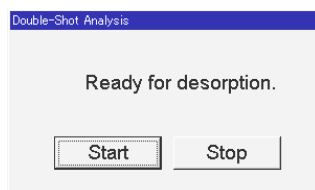

Fig. 4.10 Dialog Box Showing Start of Desorption Program in Double-Shot Analysis
1. Check the Furnace check box (B) to turn on Pyrolyzer heater.
6. A dialog box shown in Fig. 4.10 will be displayed, if GC, Pyrolyzer furnace, interface, Selective Sampler, and MicroJet Cryo-Trap are ready.